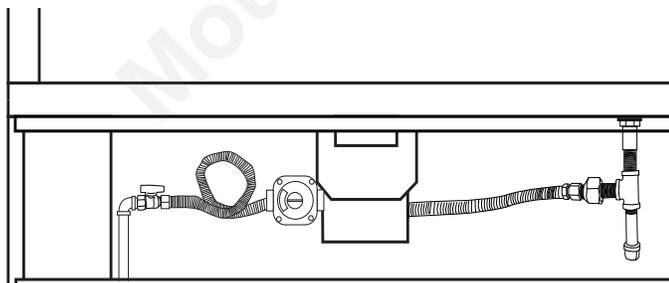

Figure 1 - Close up view of inlet gas connection with shutoff valve
GAS LINE: The gas line must have a predetermined location to enable it to be installed. *Figure 1* shows one example of an inlet gas line with a gas shut off at the fireplace. This allows a technician to shut the inlet gas supply OFF and remove the burner for servicing. **It is imperative that the flex line from the gas shutoff be long enough to lift out burner pan for service.** Ensure you follow the local and state gas codes per your installation.
3. The primary gas shutoff (supplied) will require a 1/2" male flared fitting to enable connection of the stainless steel flex gas line supplied with the fireplace (See **Figure 1, Page 5**).
NOTE: Preparation for the LED lighting and the inlet gas line must be planned before the fireplace is installed. See Page 5, Figure 1 for inlet gasline and Page 15 for LED lighting.